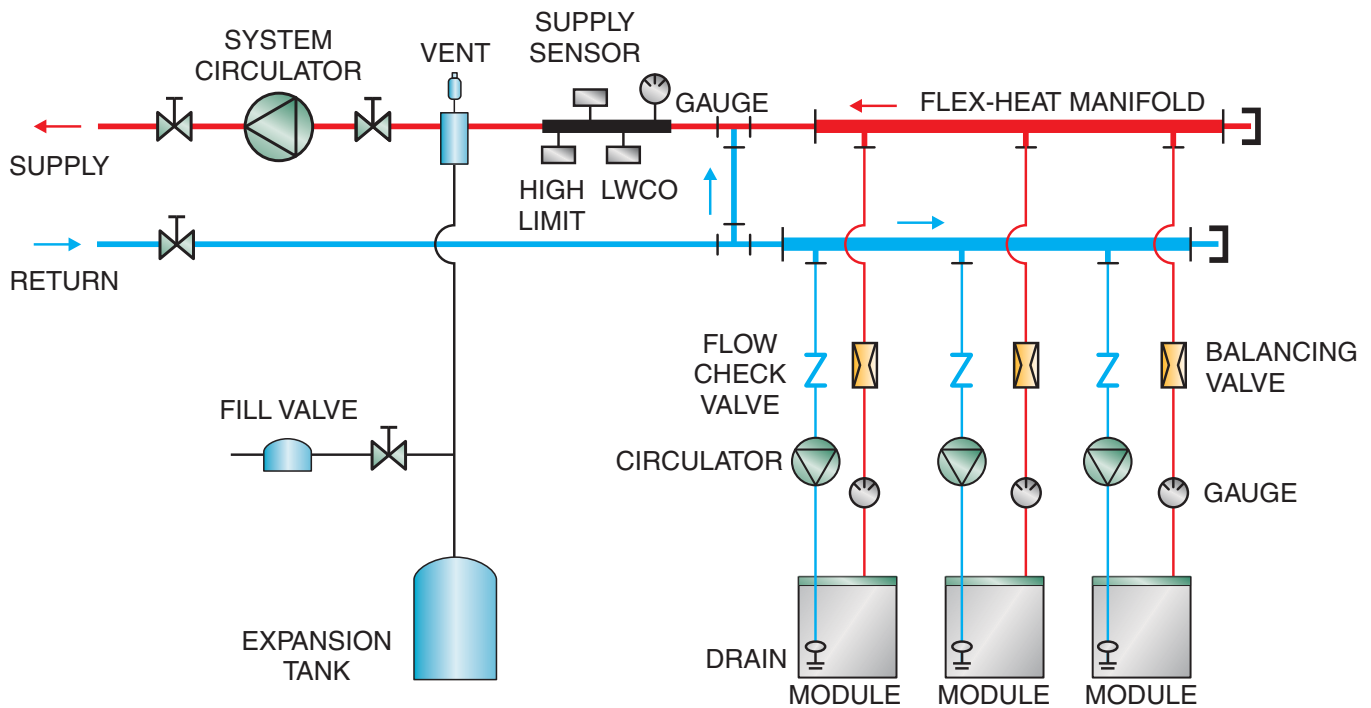

Figure 5.4: Boiler Piping Primary-Secondary Pumping Using Flex-Heat® Manifolds, Systems That Have Return Water Temperature Always Above 130° F
- d) The FLEX-HEAT® Manifolds may also be used with the FLEX-HEAT® Circulator kits in primary/secondary pumping as shown in Figure 5.4.
Use FLEX-HEAT® Circulator Kits to provide the circulator relay functions required for primary-secondary piping (Figures 5.4, 5.6 - 5.9).